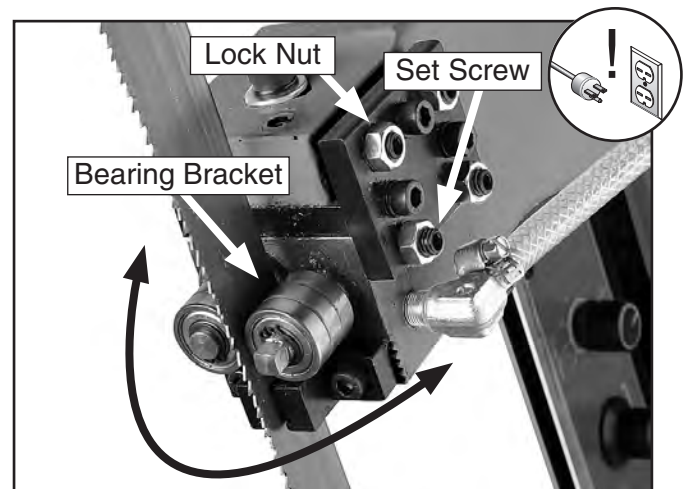

Figure 46. Bearing block pivot.
4. Adjust the blade by loosening the lock nuts and turning the set screws. This will cause the bearing bracket to pivot (see **Figure 46**).